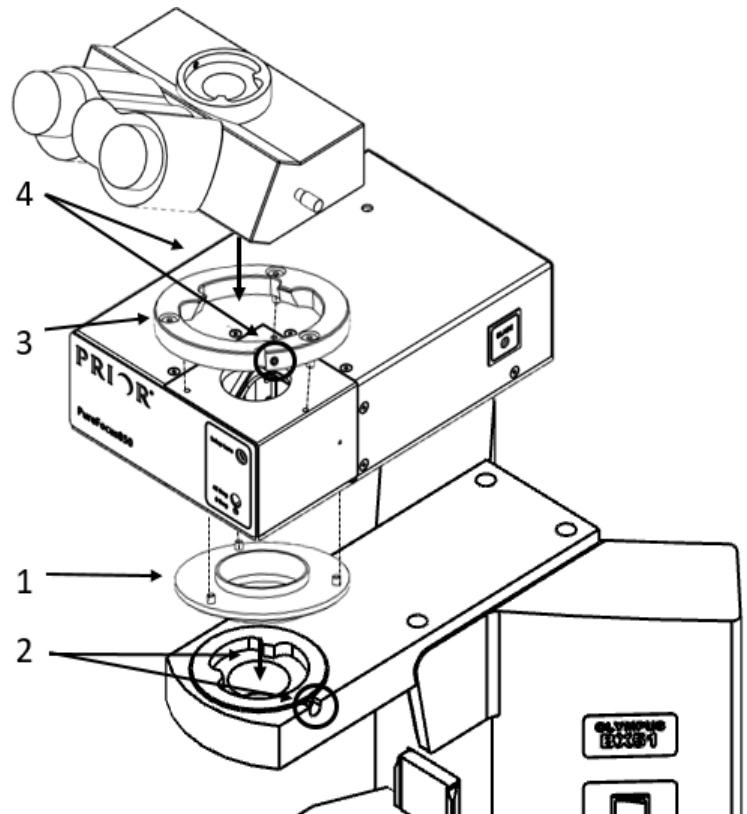

Figure 1: Installing PF850 onto Olympus BX microscope using LF335.
2. Attach the PF850 to the microscope objective arm dovetail and secure it tightly using grub screw provided on the microscope (as circled in Fig 1).
3. Attach the Upper dovetail flange (LF522) on top of the PF850 /PF850M head using the 3 x T123 screws (as shown in Fig 1).
4. Secure the eyepiece by tightening the T91 screw on the upper dovetail (as circled in Fig 1).